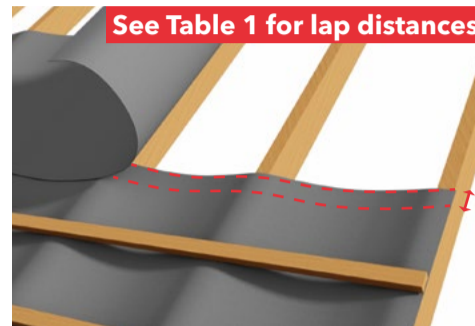

fig 3: Horizontal laps
4. Continue laying each course of Danelaw LR120 working up the roof pitch in the same way. It is important to ensure that upper layers of the underlay overlap lower layers by the correct amount (fig. 3). The product is printed with overlap lines for guidance and ease of installation. Please see Table 1 for the horizontal overlap distance for different roof pitches.